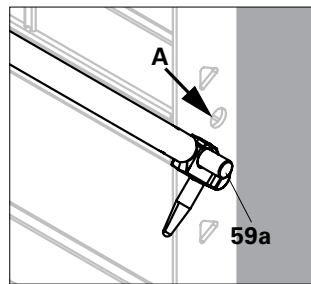

Fig. A8.07b
- Insert the $\varnothing 18$ pin (59a) side of the forged head into the $\varnothing 20$ hole (A) of panel frame. (Fig. A8.07b)